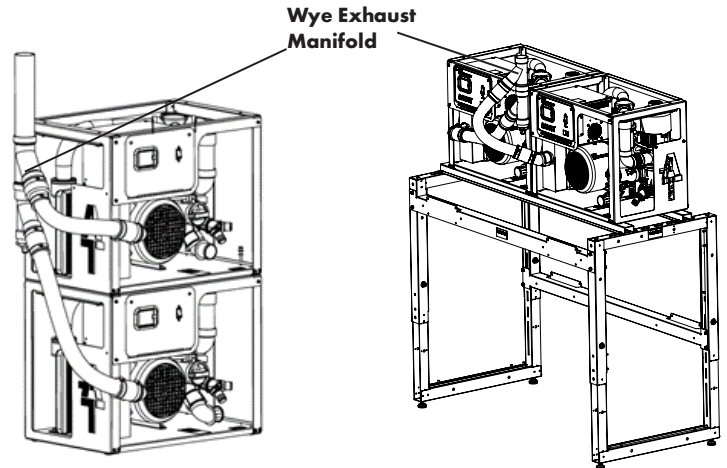

Figure 12. Heat Exhaust Connection
- Connect the top exhaust hose to the upper 'WYE' and the bottom exhaust hose to the lower 'WYE'. (See Figure 12)